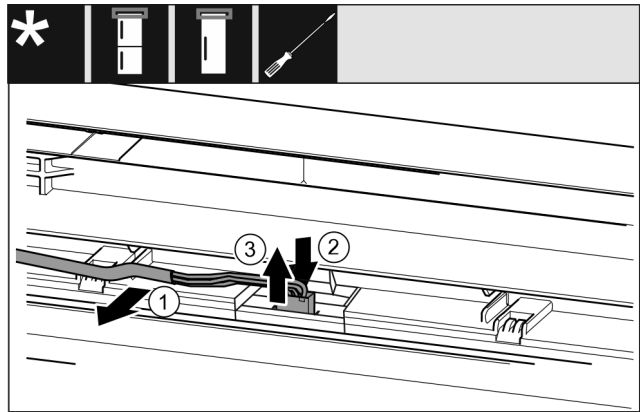

Fig. 22 Fridge/freezer combinations / freezers / refrigerators
- Release the cable Fig. 22 (1) from the guide in the door carefully.*
- Push the tab Fig. 22 (2) behind the plug backwards.*
- Pull the plug Fig. 22 (3) out upwards carefully.*